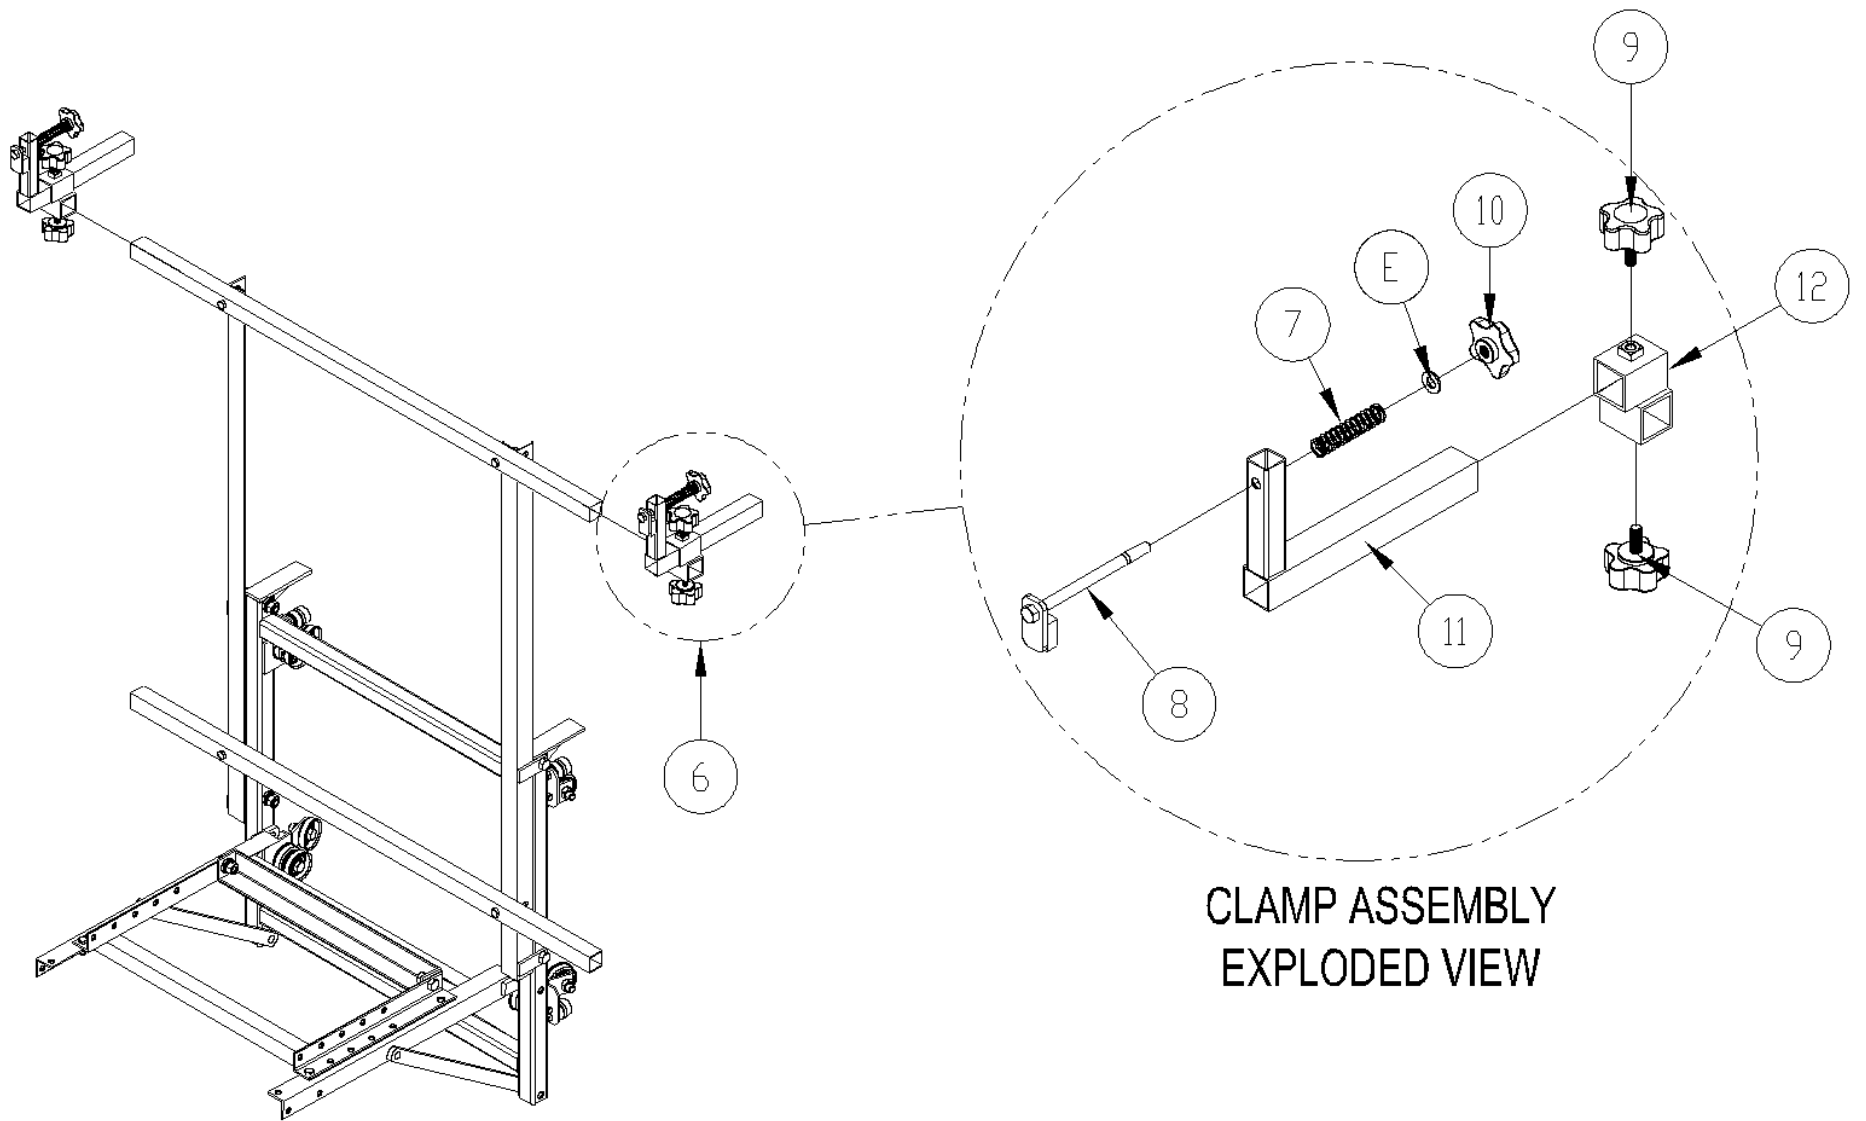
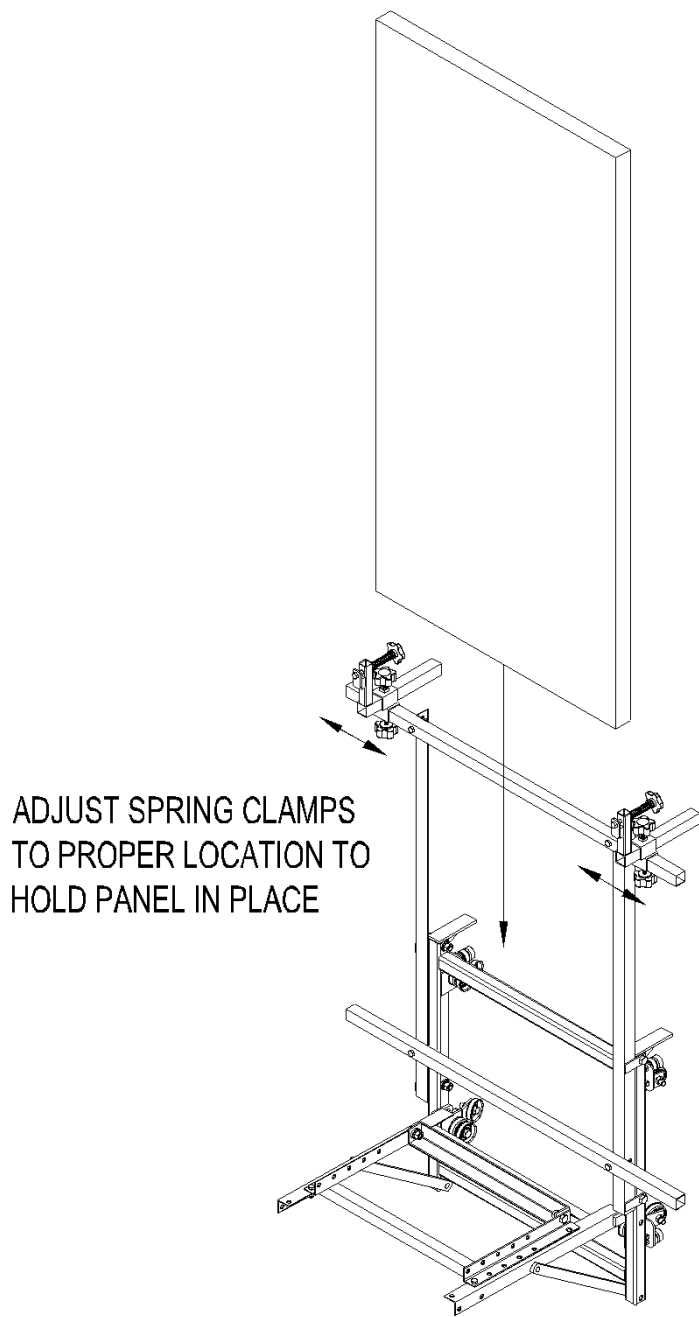

Figure 4
Figure 5
6. Install the upper clamp assembly (6) as shown in Figure 4. Use the knobs (13) on the upper clamp adjusting tube (12) to locate the clamp assembly onto the support tube. The bottom knob secures the clamp adjusting tube (12) to the desired location on the support tube, the top knob secures the spring adjustment tube (11). Adjust the clamp assembly accordingly to clamp on to the number of solar panels that will be carried on the carrier as shown in Figure 5.